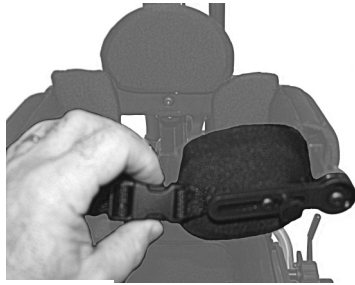

Fig. 20
- Squeeze the sides of the buckles at forward pads on hip assembly (and lateral chest system if applicable) to release (fig. 20).